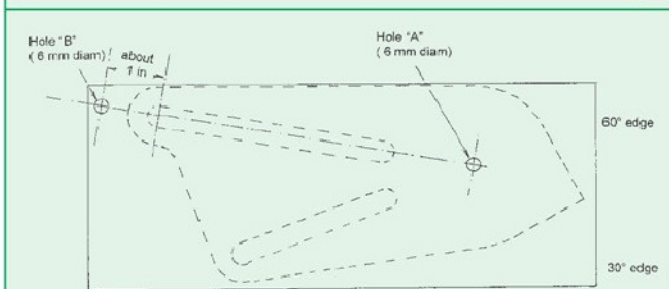

Fig. 3 Raw material
The accurate measuring of threads is an interesting process and Fig. 3. shows two methods of checking vee threads.
This is by far the easiest but potentially most expensive way. The thread micrometer is similar to an ordinary one but the anvil and spindle are shaped to the thread angle, features 4. and 5. on Fig 3. These instruments are available in ranges, for the various thread angles, and for various pitch ranges. The feature they measure is the effective diameter, which is the diameter where the width of the vee is equal to the width of the gap, see Fig. 3. The figure for the effective diameter is in most thread tables and is sometimes called the pitch diameter. It is also possible to purchase "Thread triangles" which attach to a standard micrometer, and may be used in conjunction with measurement conversion tables supplied with them.
When a thread micrometer is not available other ways can be used and one of them uses 3 wires as shown in Fig 3. The wires can be looked up in tables in the more sophisticated references. They are called, 'best sized wires'. If there isn't a reference book handy, the sizes can be calculated by using a formula which is specific to a thread form. For example, best wire size for 60degree threads is given by $D = 0.57735 \times \text{pitch}$, where D is the wire diameter. When I have had to use the method, I used the shanks of number drills, they seemed to have the best range of sizes. The shanks had to be clean and un-scarred and the only difficulty was holding the three wires and the micrometer at the same time, a job really needing three hands. My solution was to
- 2.1 Cut the arm from 12 mm mild steel plate, allowing at least an inch excess material beyond the end of the longer slot (Fig 3.) Details of the part are in Fig 4.
- 2.4 Mark out according to the drawings, and drill the 6 mm diameter pilot for the boss hole, and the temporary support hole ("A" and "B" respectively in figure 3). These holes will just allow the future milling of the long (upper) edge to be performed in a single operation -providing a long cross-slide is used.